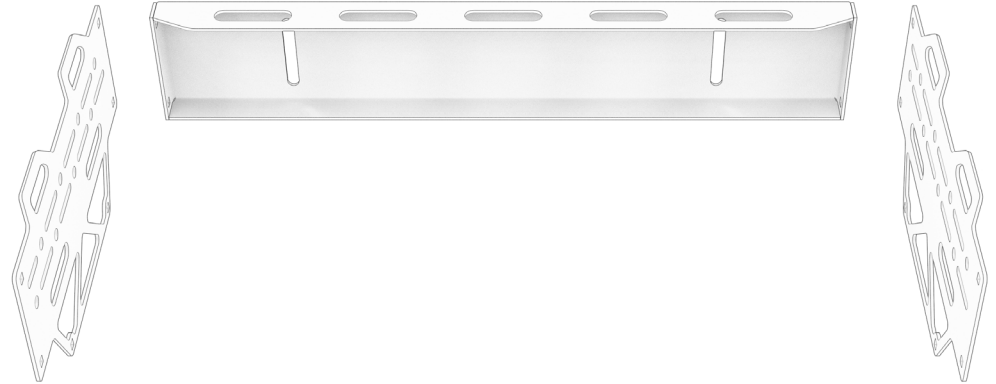

FIG 3
2.1 Position Side Panels to Rear Panel: Position the **Side Panels** to the **Rear Panel** in the orientation as shown in **FIG 3** and **4**.